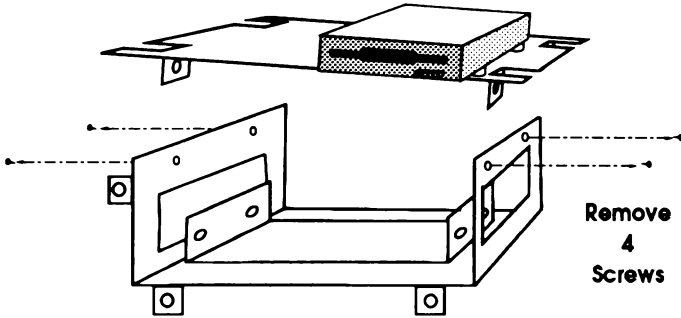

Figure 4.4 – Upper tier removal.
- 3b) The upper tier of the Hard Drive Stage is attached to the lower by two screws on either side (*see Figure 4.4 at top of next page*).